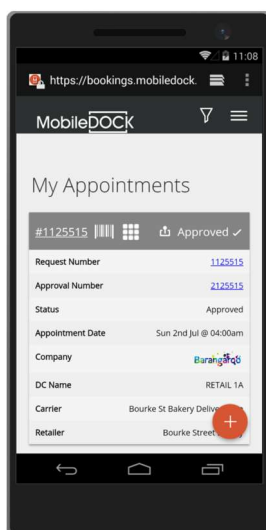

Figure 8 – Booking System, Mobile Based Example
- Each individual bay would require a separate booking profile within the management app and regular timeslots for (waste collection etc.) would be allocated within the booking system. An example of the booking system is shown in Figure 7 and Figure 8.